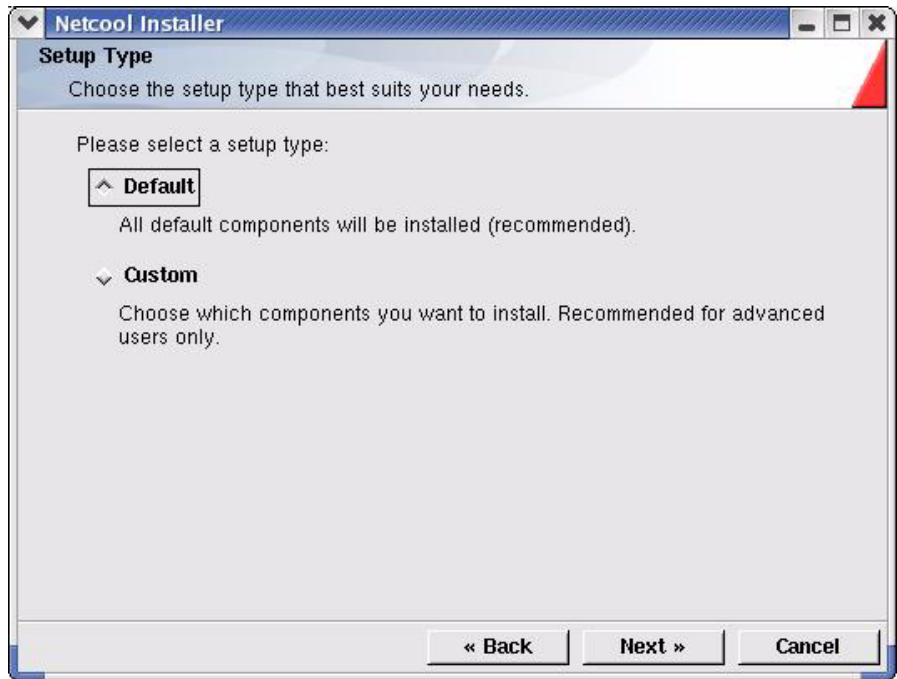

Figure 6. *Netcool Installer Setup Type window*
5. Select the type of installation you want to perform and then click **Next** (Figure 6.)